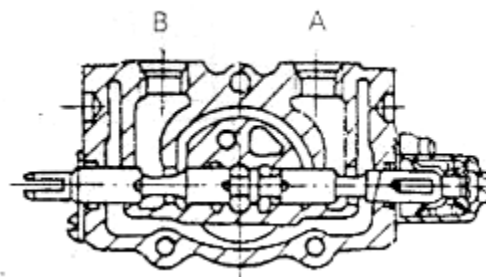

Fig 6-3
(2) Push-in Spool Valve (Fig 6-3):